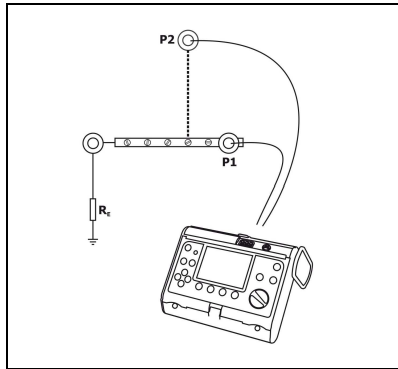

Figure 16. Connection of the meter.
- connect the meter with cables to the network socket of the board in accordance with Figure 16,